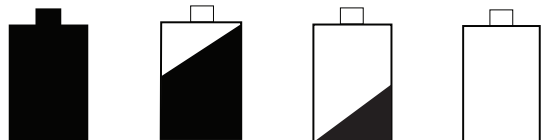

Figure 24.2
- A battery icon appears on your wall control to let you know you are now operating on battery power (**Figure 24.2**).